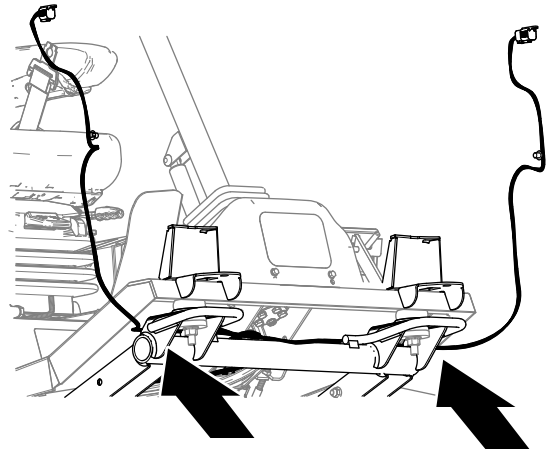

Figure 13
1. Remove the cable tie securing the 6-socket connector labeled HEADLIGHT LH and the 6-socket connector labeled HEADLIGHT RH of the machine wire harness to the chassis of the machine (Figure 13).